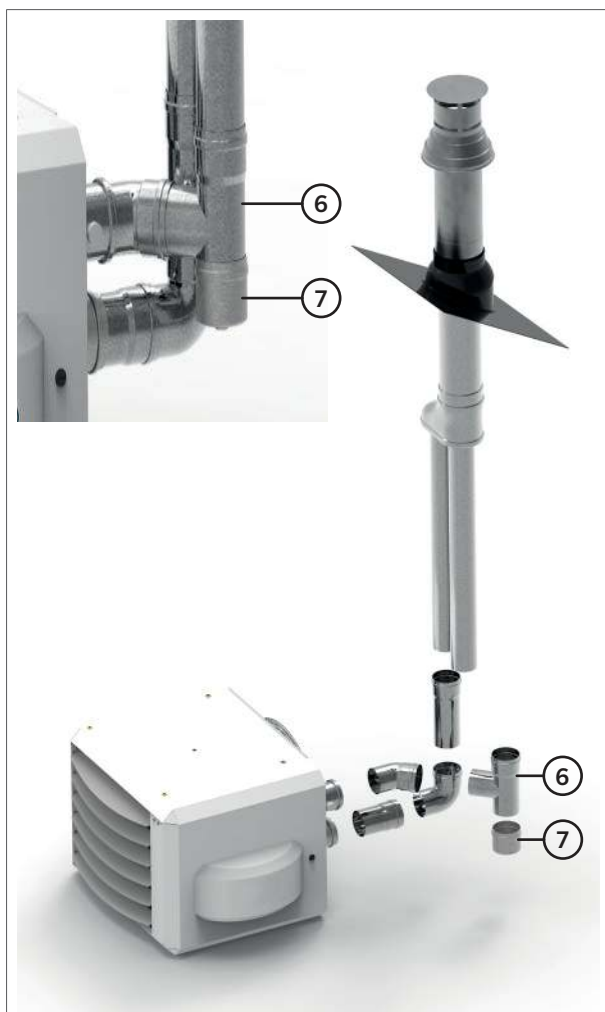

Figure 21 - A T-piece (6) and condensate trap (7)
- Add a T-piece (figure 21).
- Place a condensate trap (figure 21).